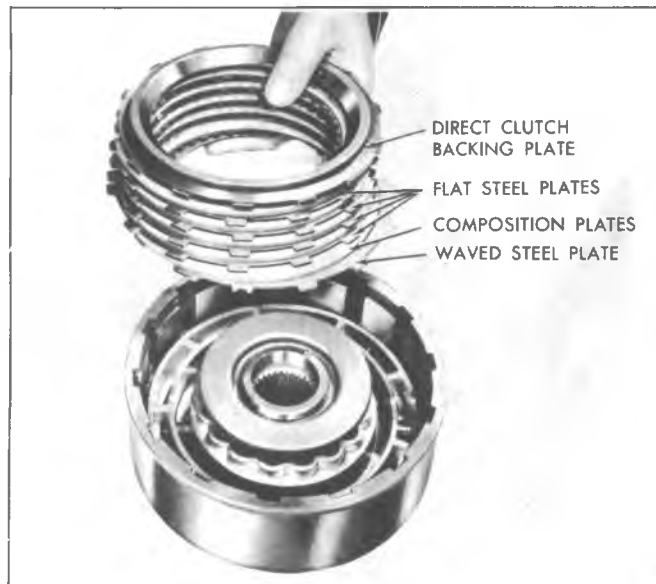

Fig. 7A-104C--Install Direct Clutch Backing Plate, Composition Plates, and Steel Plates
followed alternately by five (5) composition plates and four (4) flat steel plates. (Fig. 7A-104C).
b. (Models FL and FS) Oil and install six (6) composition and six (6) flat steel plates, starting with a flat steel plate and alternating composition and flat steel clutch plates.